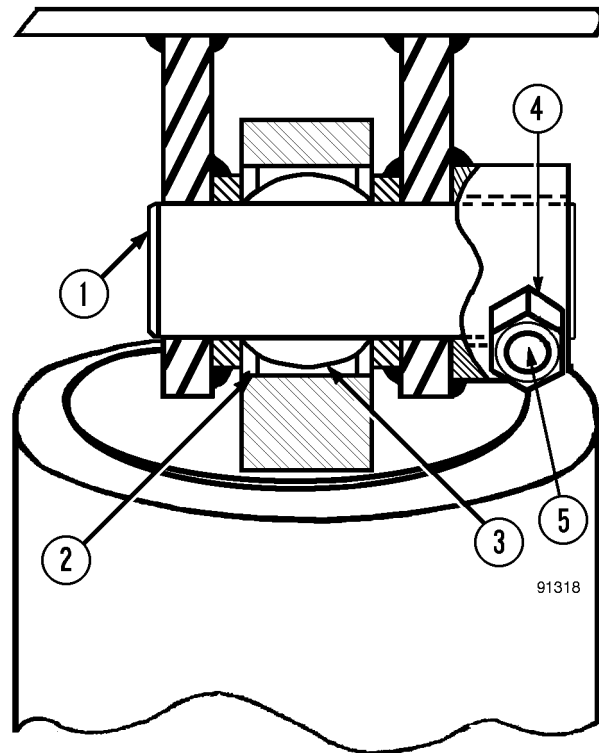

FIGURE 8-16. HOIST CYLINDER UPPER MOUNT
4. At the upper mount, remove self-locking nut (4, Figure 8-16) from pin retaining cap screw. Remove cap screw (5). Use a brass drift and hammer to drive pin (1) from bore of mounting bracket.